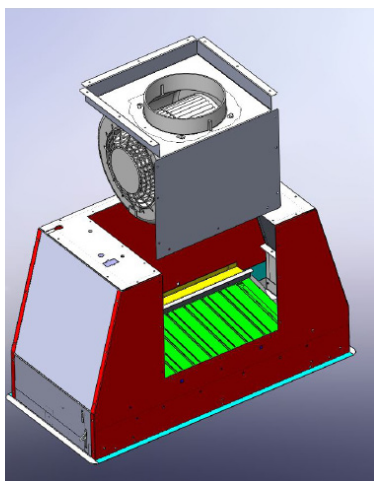

FIG. 9
- › Take the metal support and motor out (Fig.9).